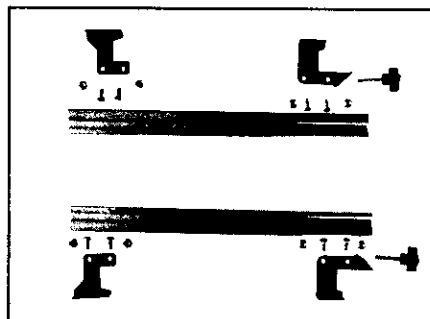
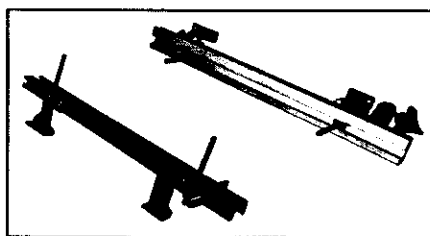

Figure 9
Figure 11
13. Carefully review Figures 9, 10 and 11. Both the mounting hook and the clamp bracket are Right/Left specific. Begin by sliding (4) 1/4"-20 x 5/8" hex bolts into the small "T" slot on each aluminum extrusion.
14. Attach the mounting hook and clamp bracket to the extrusion using the 1/4"-20 hex bolts installed in Step 15 and (4) 1/4"-20 serrated flange nuts per extrusion. Thread 5/16"-18 x 1-1/2", 3-point knobs onto the clamp brackets as shown. Hand tighten only.
15. Slide (4) T-bolts into the large (top) slot on the aluminum extrusion. Space them to the approximate distance required to mount the saw. Figure 11.